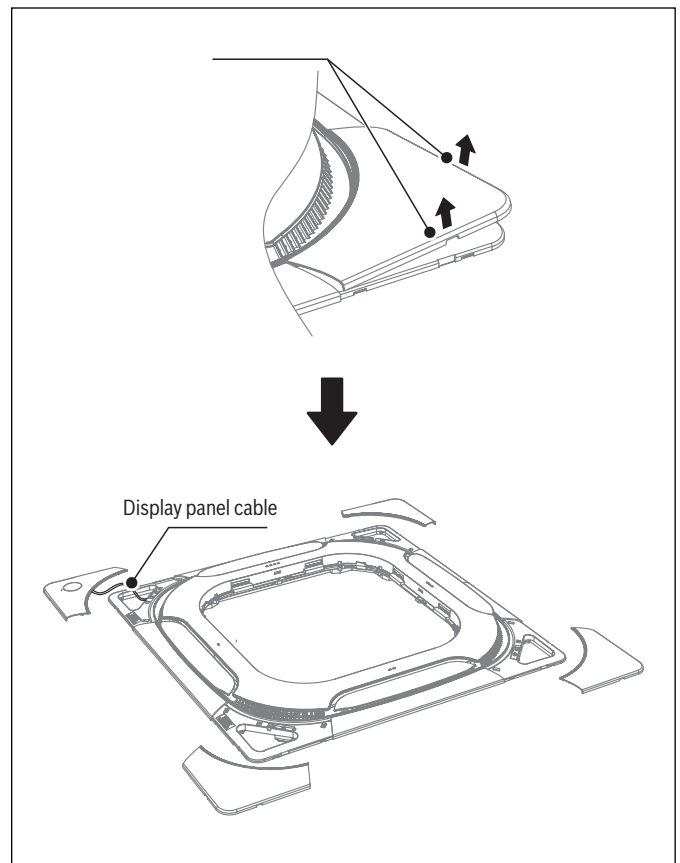

Figure 74
- a. Carefully remove the mounting covers at the four corners. One of the corners will have the display cable that will need to be connected to the indoor unit (see Figure 74).